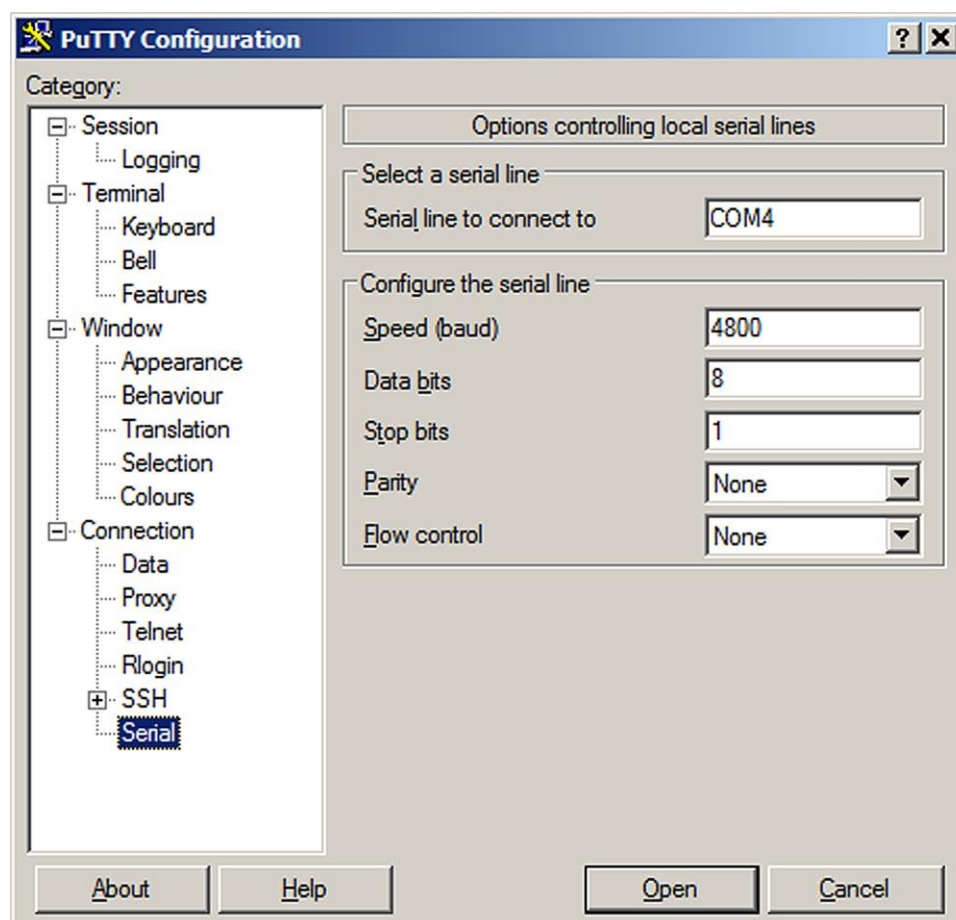

Figure 3-15. PuTTY's Serial Configuration Panel
PuTTY's Serial Configuration Panel is displayed (figure 3-15).
6. Type in the numbers and select the options shown in figure 3-15 for the serial connection to the controller.